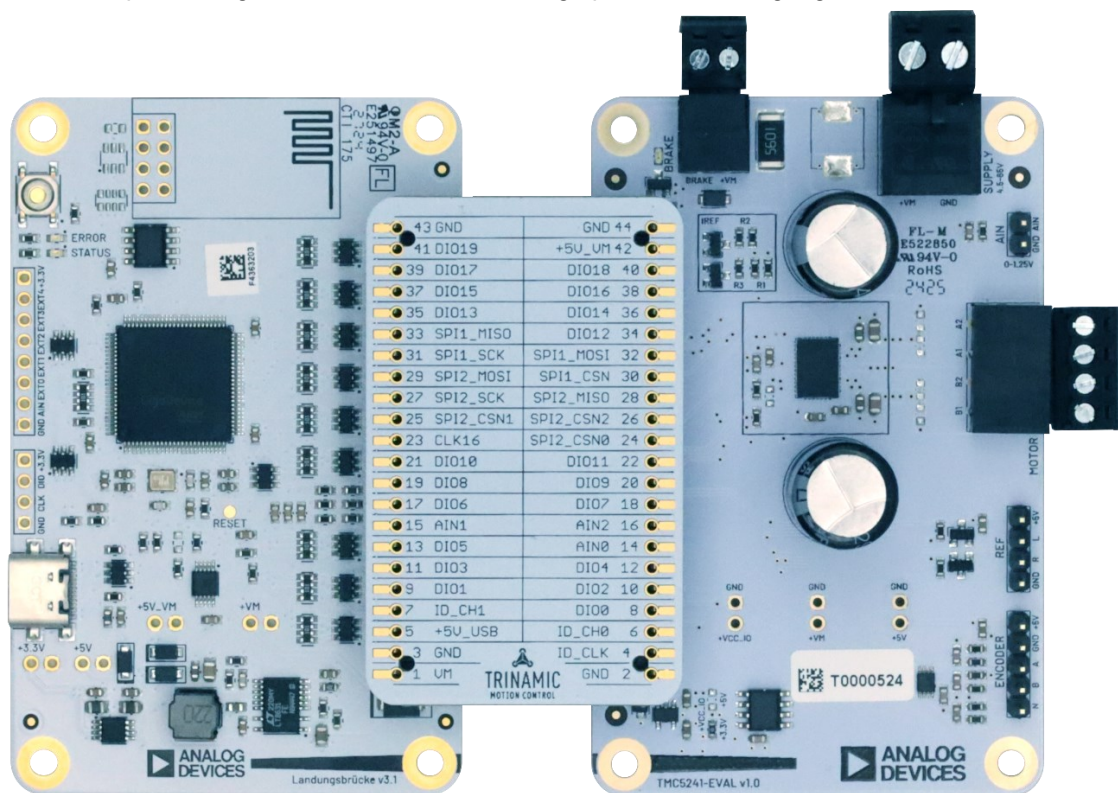

Figure 1. Assembled TMC5241-EVKIT
1. Interface the TMC5241-EVAL with the Landungsbruecke through the Eselsbruecke bridge board as shown in Figure 1. While connecting the boards together, both the Landungsbruecke and the TMC5241-EVAL must not be powered. Make sure that every pin in the connector is connected to its corresponding header. The working area is nonconductive to prevent the shorting of pins on the back side of the boards.